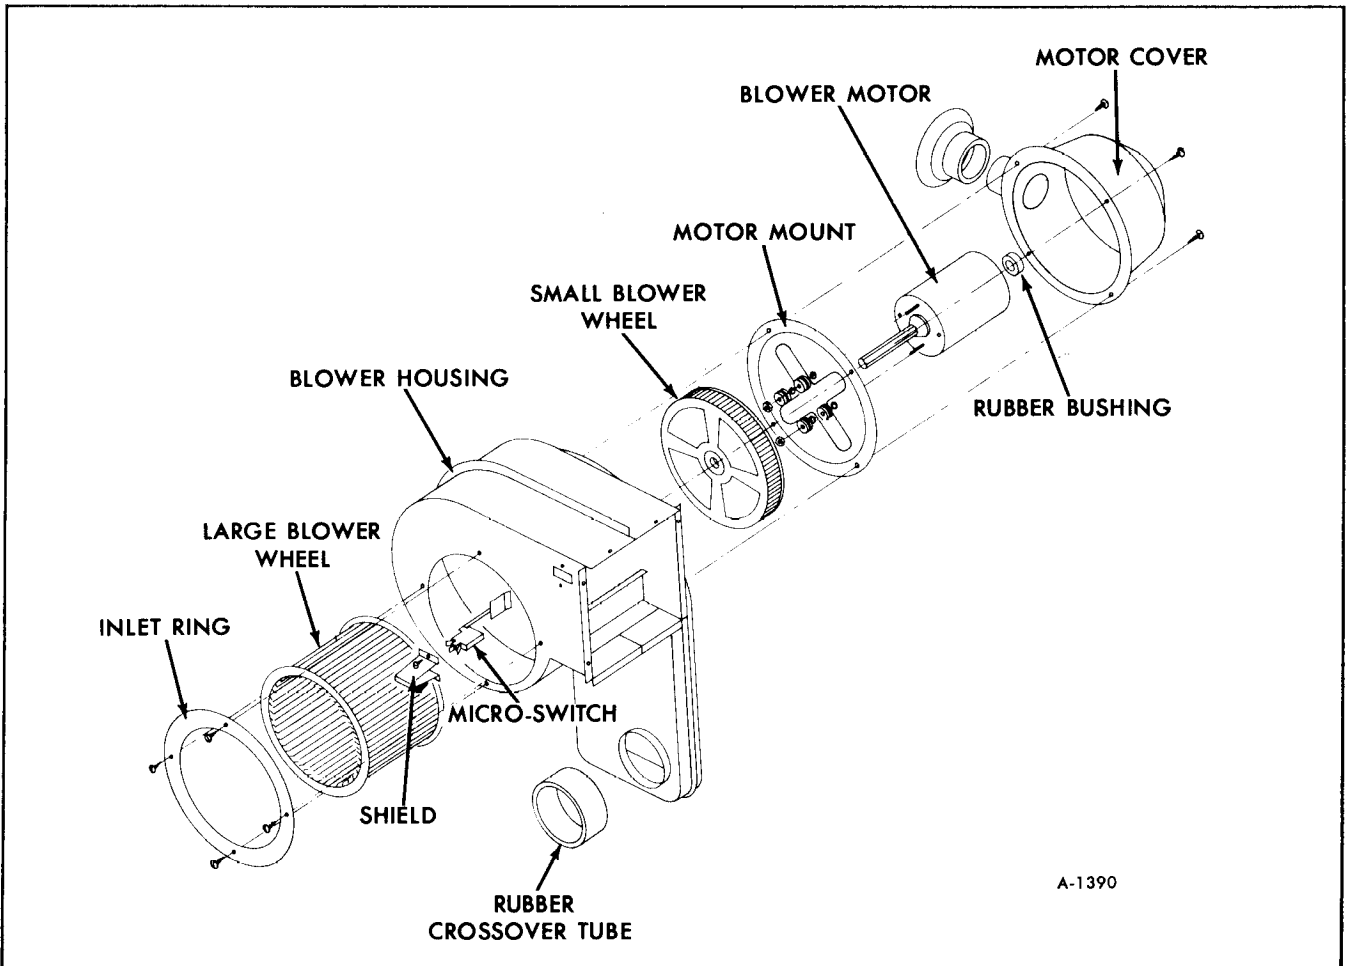
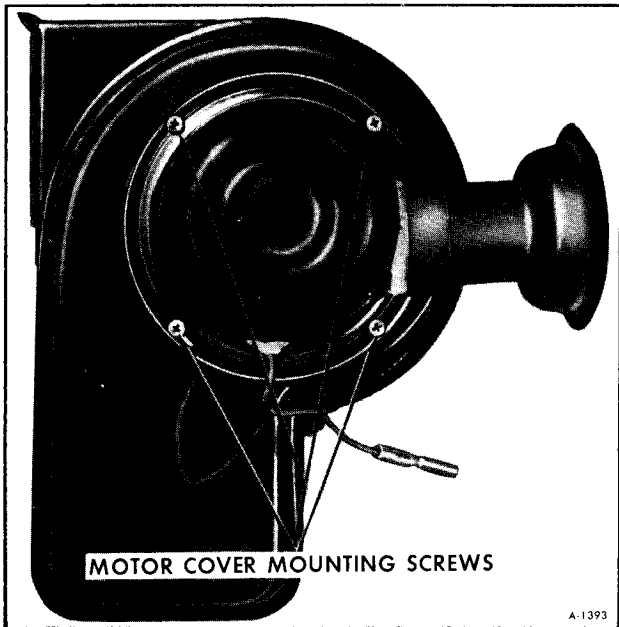

Figure 23-(NT-22G) Blower Assembly
Figure 27—Motor Cover Mounting Screws
## BLOWER ASSEMBLY (NT-22G) (FIGURE 23)
8. Remove motor cover (4 screws) (See figure 27). Motor, motor mount assembly, and small blower wheel will then come free from the blower housing (See figure 23).
10. Remove motor mount assembly from motor (2 nuts) as shown in Figure 23.
small blower wheel on blower housing and align screw holes (See figure 23).
4. Position motor cover over motor, being sure rubber bushing is properly installed between motor and cover (figure 23).
5. Align holes with those in motor mount assembly and install screws (See figure 23). (The motor ground wire attaches to one of these screws).